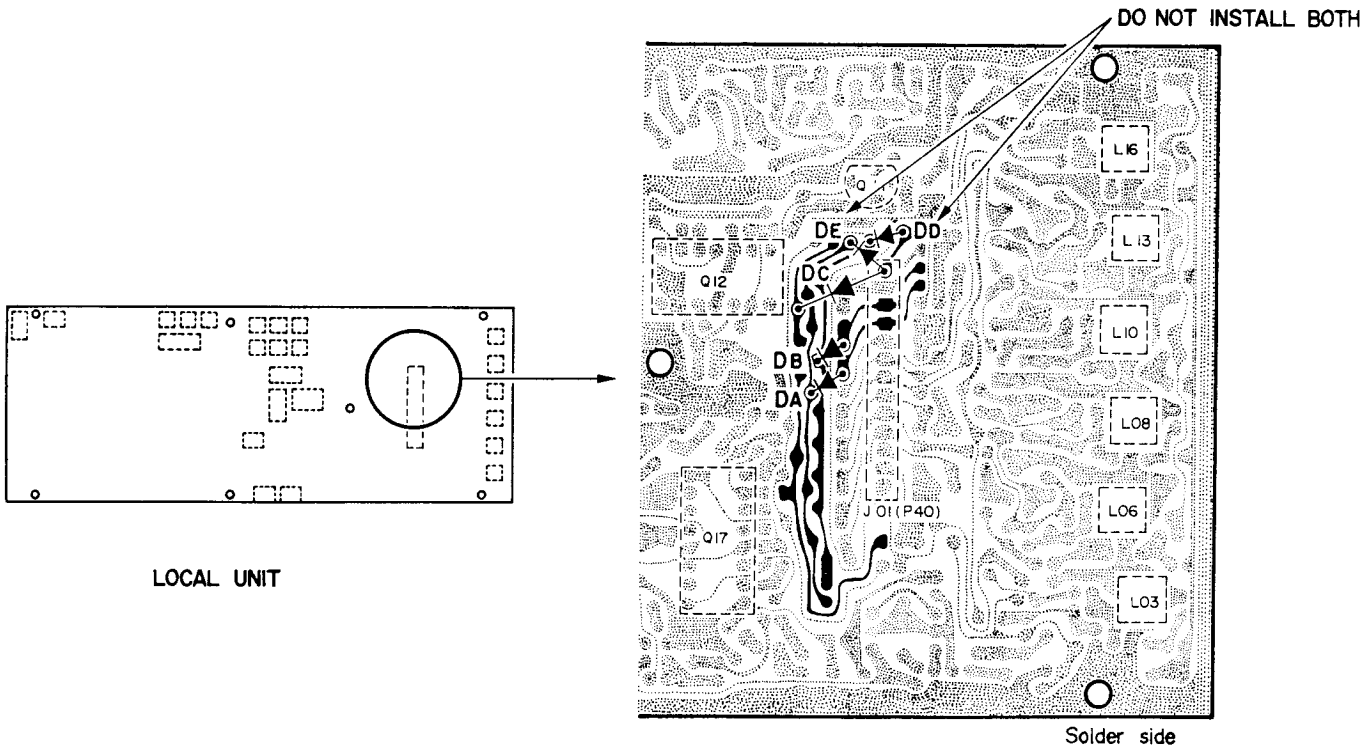

Figure 5
2. Install 1SS53 diodes (white band) on the solder side of the Local Unit at the locations shown in Figure 5, making sure that the banded ends of the diodes are aligned as indicated. Install D_D for 28.0–28.5 MHz, or D_E for 28.5–29.0 MHz (DO NOT INSTALL BOTH). Then perform step 5 of the previous modification procedure.